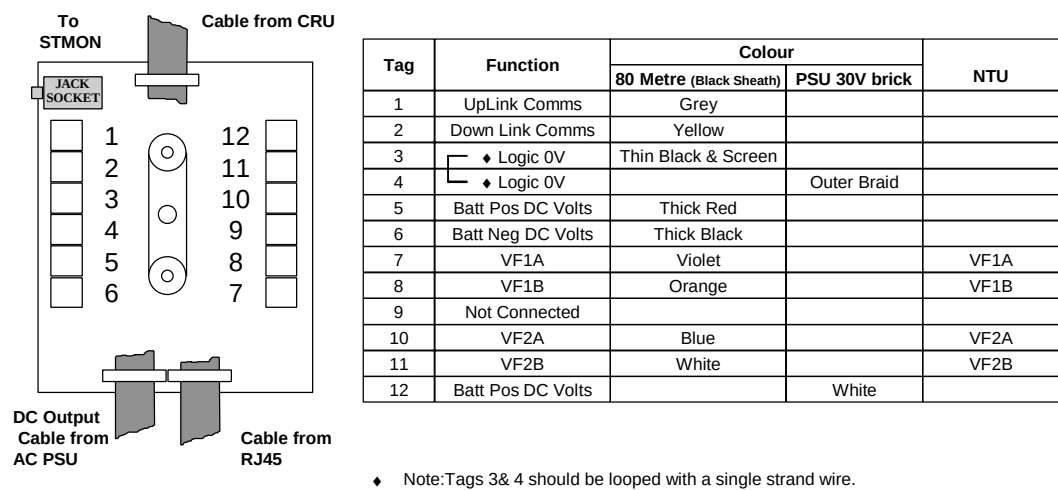
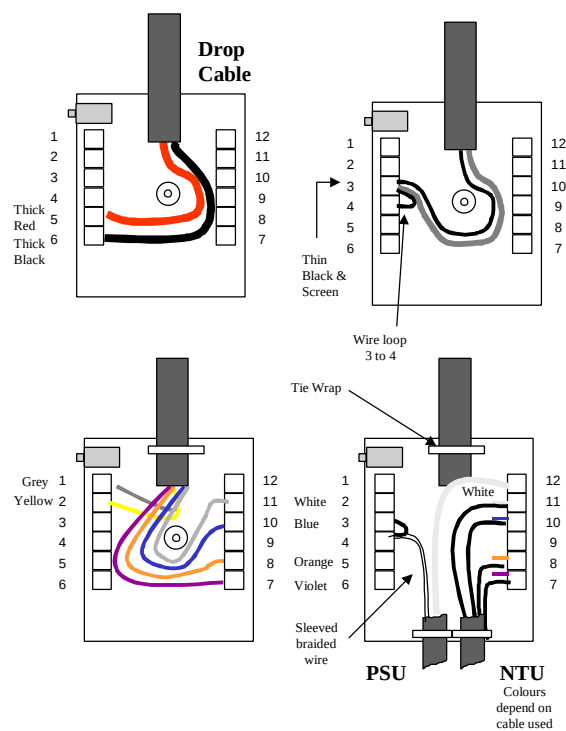

Figure 21. Drop Cable Connections to Junction Box.
Figure 22. CRU Drop Cable Forming And Terminating In The Junction Box
- Figure 21 below, illustrates the connections of the drop cable to the connector blocks inside the Junction Box. Figure 22 shows the order of wire insertion to ensure that the cables fit in the junction box. When connecting the thick stranded wire ensure that the screws are fully undone and the hole fully opened to allow the wire to be inserted without displacing strands. A wire loop should be inserted between tags 3 & 4.